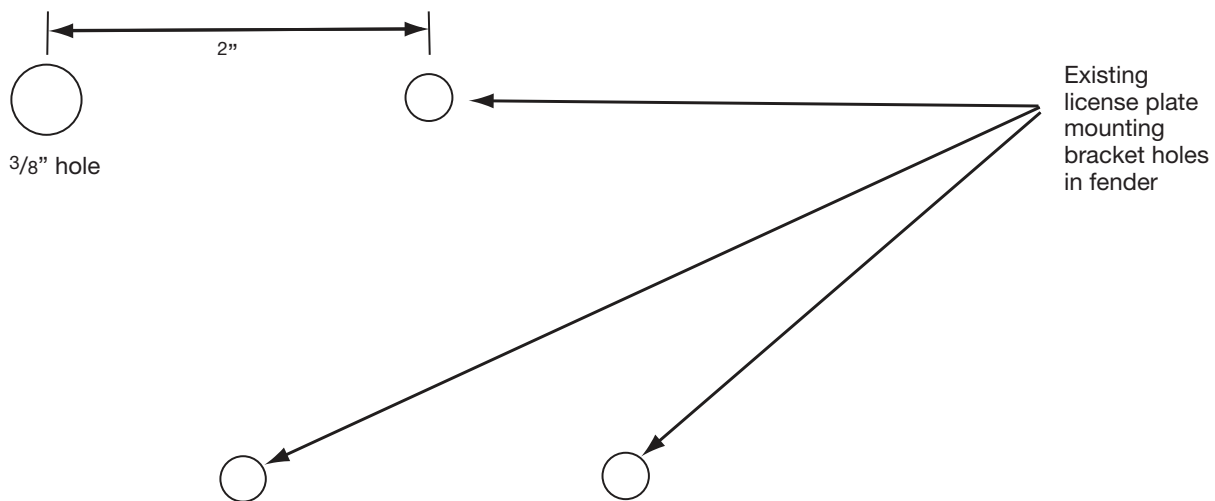

Figure 1
18. Measure approximately 2" to the left of the top mounting hole and scribe a mark on the fender (see Figure 1).